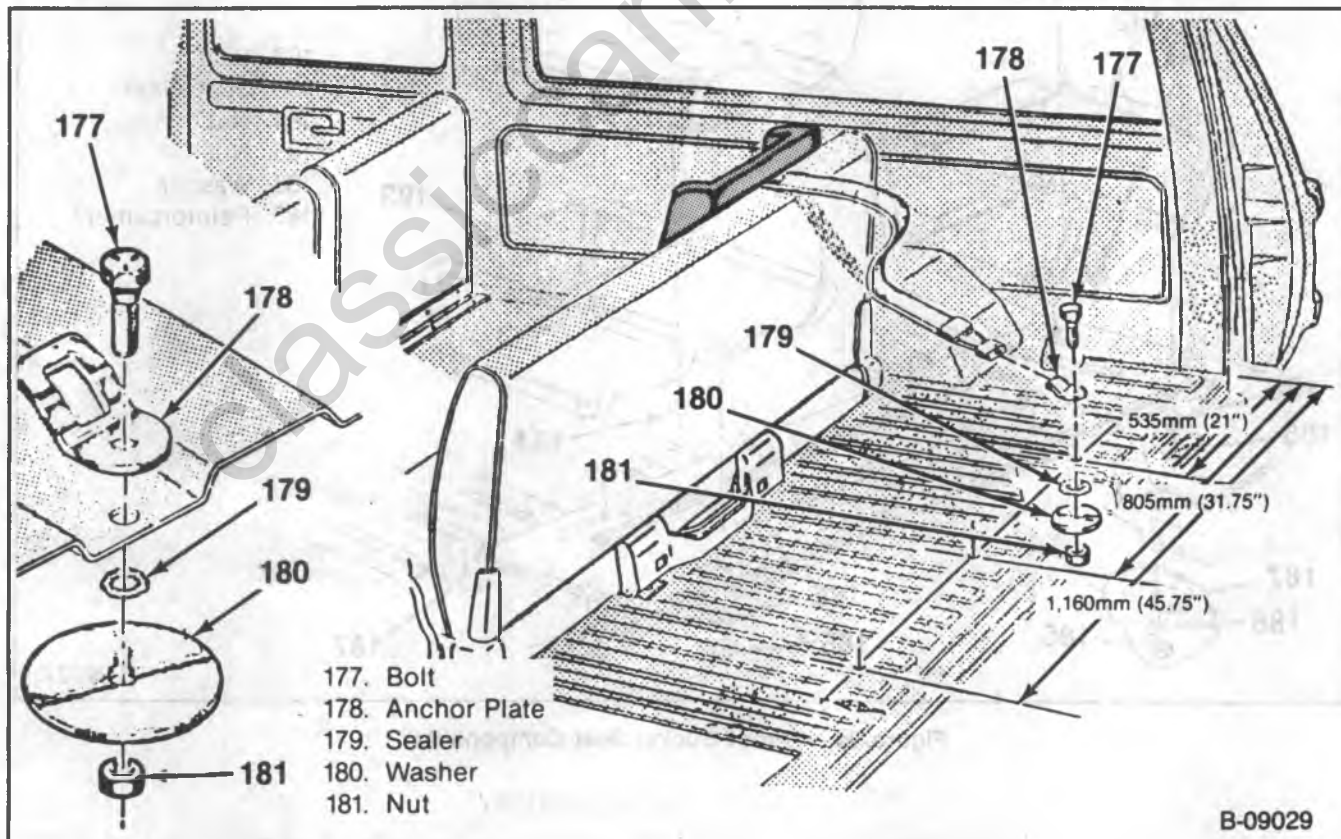

Figure 33 — Suburban Third Seat Top Strap Belt Components
1. Determine the location for the anchor by measuring 127 mm (5-inches) forward from the rear edge of the floor pan. Make this measurement in the center of one of the depressed floor pan ribs (figure 33).